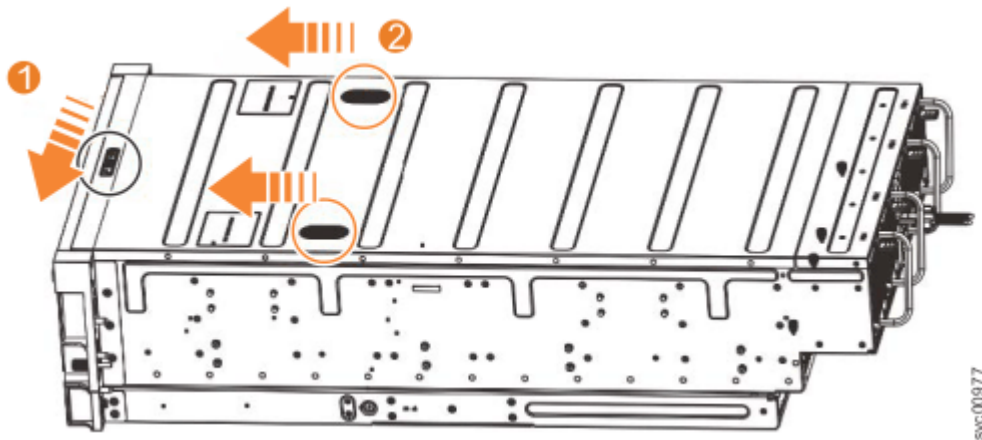

Figure 41. Releasing the 2076-92F cover
1. Slide the release latch (1) in the direction that is shown in Figure 41 on page 46.
2. Slide the cover toward the front of the expansion enclosure (2), as shown in Figure 41 on page 46.